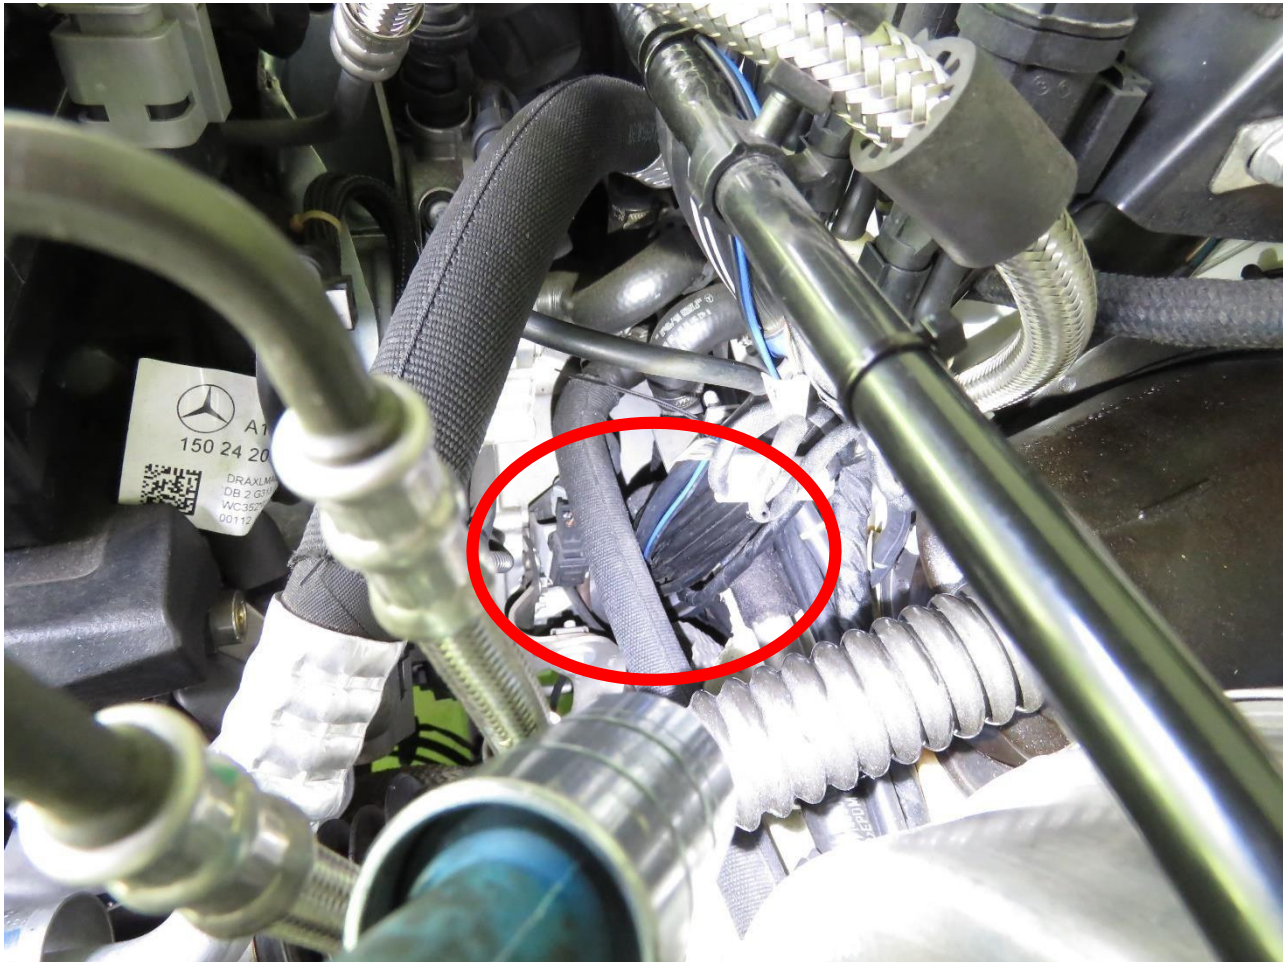
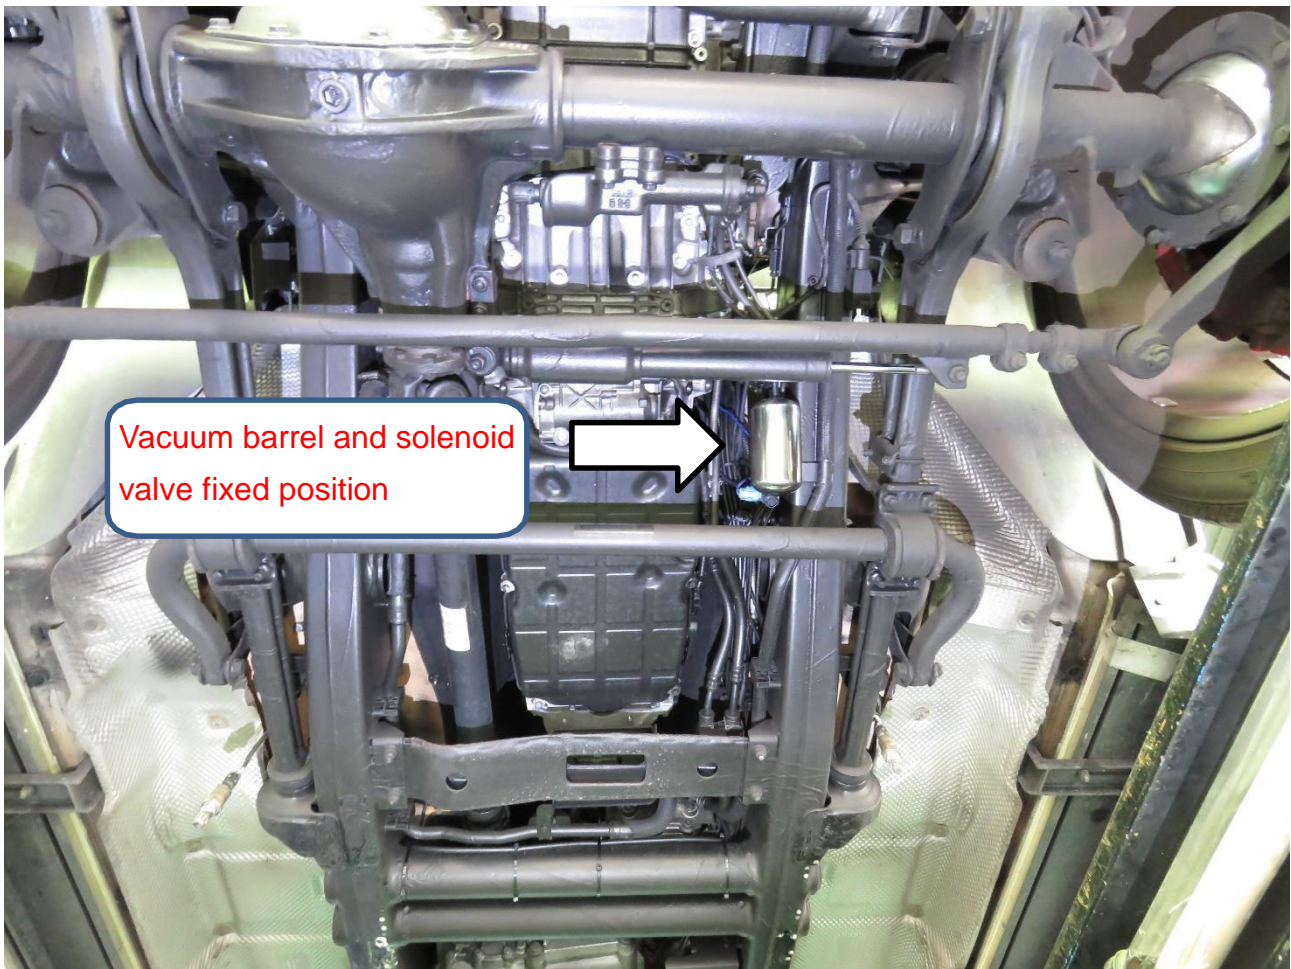

Fig.10
Fig.11
6. Vacuum tube and solenoid valve wiring can be extended from the lower left fixing ring of the brake master cylinder to the bottom of the vehicle (Fig.10, Fig .11).